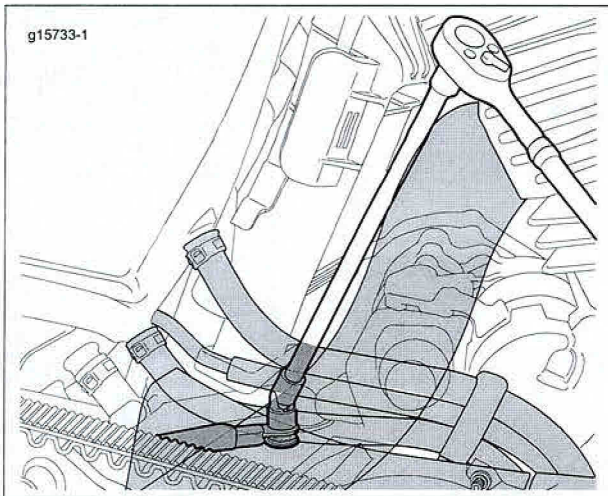

Figure 1. Removing Negative Battery Cable Ground
6. See Figure 1. Using a swivel socket, remove the negative battery cable from the crankcase ground stud.